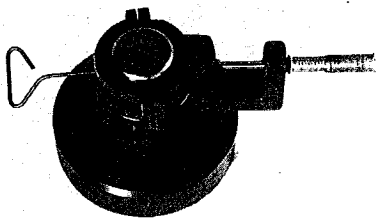

Fig 4 Cutter Holder on Micrometer Assy.
1. Install cutter holder over the micrometer shaft and align the cutter hole in the cutter holder with the hole through the micrometer shaft and tighten on the micrometer shaft. The scribed lines on the Micrometer Shaft and the Cutter Holder will easily identify the positions of the holes. Keep even gaps between the two halves of the cutter holder when tightening on the Micrometer Shaft. (See Fig 4)